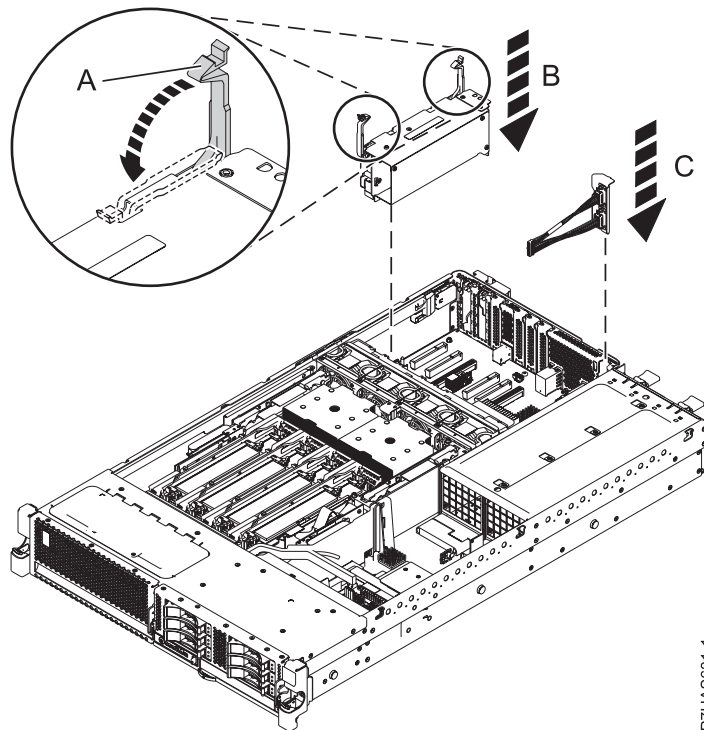

Figure 8. Replacing the FC EJ0G GX adapter in a system
1. Prepare to install the new adapter by pulling out the latches **(A)** on the adapter **(B)** into the open position. Figure 8 on page 10 shows installing the feature code (FC) EJ0G GX adapter in the system. GX++ adapter FC EJ0G (2-Port 12X IB2 Adapter with 2-Port SPCN CD) is installed in GX slot 2 (P1-C8) and the FC EJ0G 2-port SPCN cable assembly is installed in GX slot 1 (P1-C1).
- Carefully grasp the new GX adapter FC EJ0G assembly by its plastic latches (A), as shown in Figure 8, and align the GX adapter assembly with GX slot 2 and its connector on the system backplane.
- Evenly rotate the latches (A) into the locked position, as shown in Figure 8.